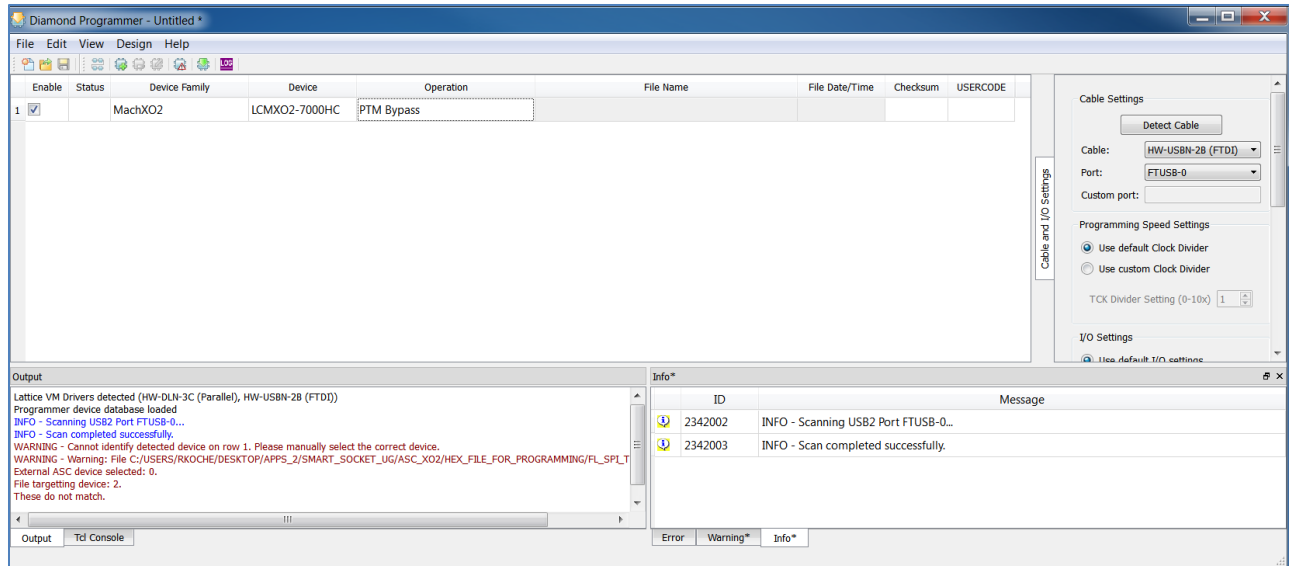

Figure 6.19. ASC Socket – Warning for MachXO2
7. Click **OK**. The same warning appears in the output console window as shown Figure 6.19.